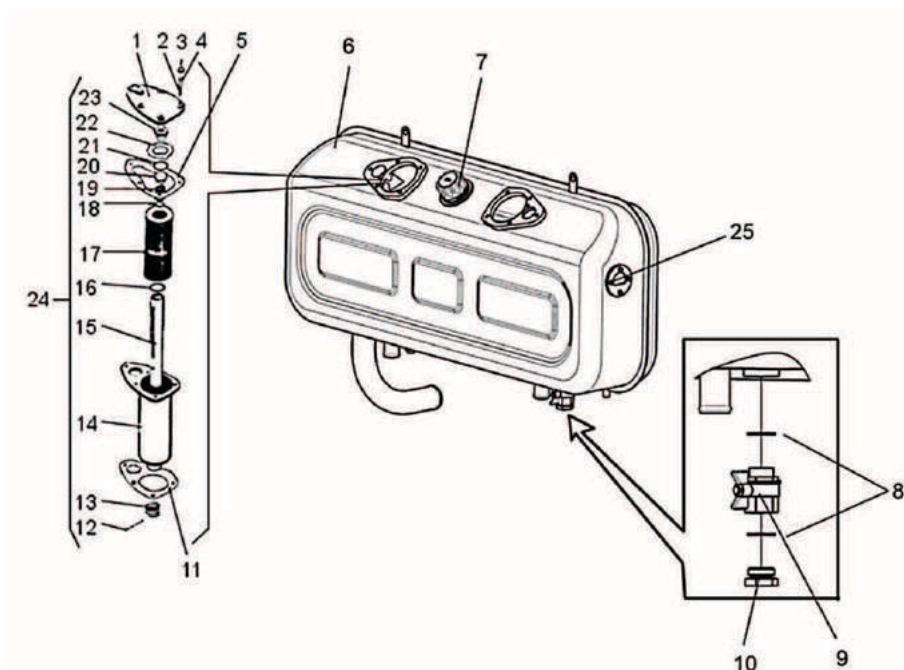

Fig. 148
With the tractor on flat horizontal ground, check the oil level in the hydraulic tank via the sight hole 25 (Fig. 148, Page 177); oil should be visible through the sight hole. Fill clean oil through the grill of filler port 7. When checking the oil level in the hydraulic tank, make sure of the absence of foam generation.
- a) Undo fastening nuts 3 (see Fig. 148, page 177) and take off cover 1.
1. *Refill oil into the hydraulic tank through the oil filler port; in doing so, oil level shall reach the middle of housing of filter 14 (Fig. 148, page 177).*